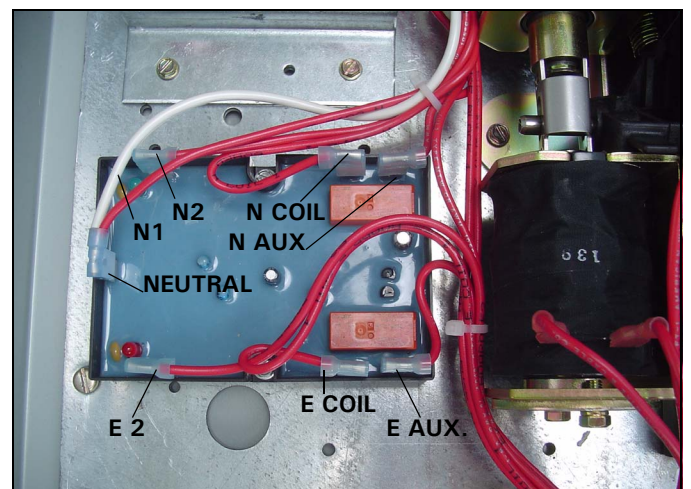

Figure 35. Wires to Disconnect from the Generator Controller Board.
Step 6: Disconnect the Neutral, N1, N2, N Coil, N Aux. N.C., E Aux. N.C., E Coil, and E2 female connectors from the generator controller board (Refer to the wiring diagram in Figure 20 for connection locations on the generator controller board). (see Figure 35).
Step 11: Connect the Neutral, N1, N2, N Coil, N Aux. N.C., E Aux. N.C., E Coil, and E2 female connectors to the generator controller board (Refer to the wiring diagram in Figure 20 for connection locations on the generator controller board (see Figure 35).